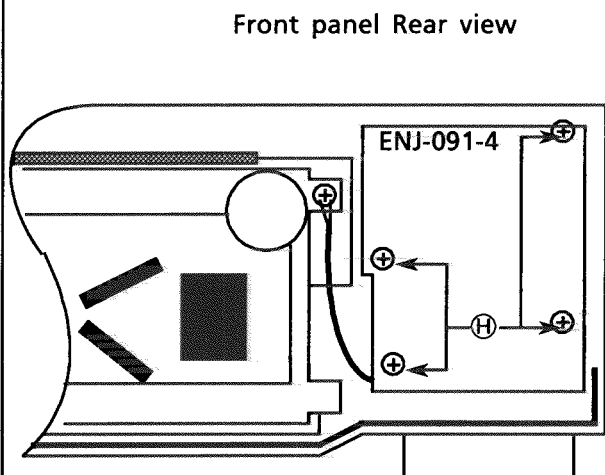

Fig.7 Rear view
2. Remove the 4 screws (H). (Fig.7)